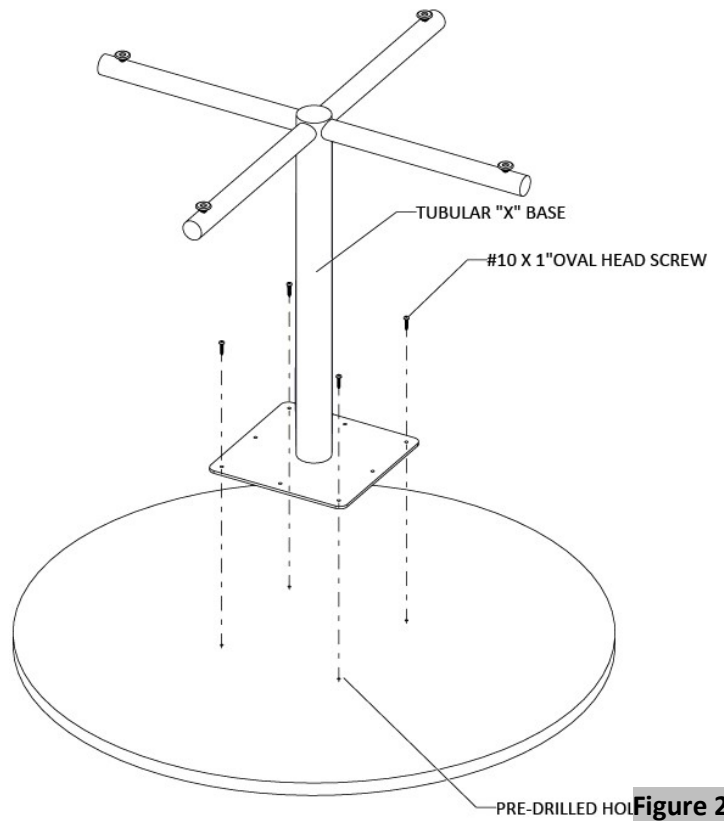

Figure 2
2. Position the tubular "X" base using the pre-drilled positioning holes and attach it to round table top using #10 X 1" Oval Head Screws, (Figure 2).